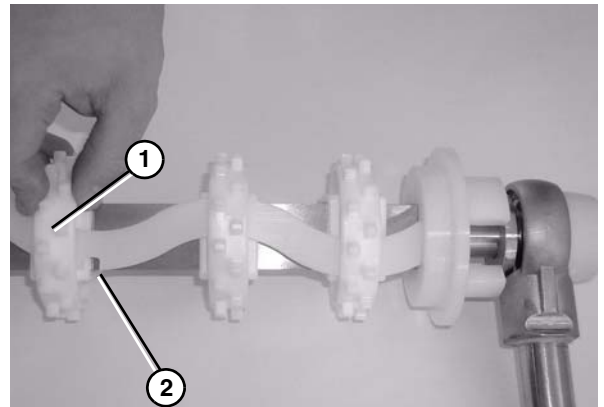

Figure 77
4. Install the remaining sprockets (**Figure 77, item 1**) making sure to position each sprocket with the next available notch (**Figure 77, item 2**) in the sprocket alignment bar.